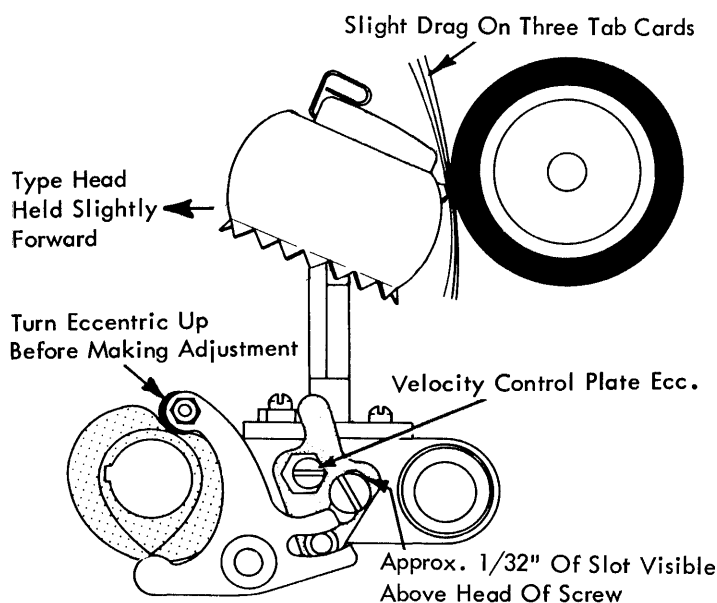

FIGURE 139. Velocity Control Plate Eccentric Adjustment
The eccentric shouldered nut (Fig. 139) on the velocity
- c. Hand cycle the machine using a zero rotate, zero tilt character until the print cam follower is on the high point of the cam. Do not hold the typehead toward the platen. With the mechanism in this position, adjust the velocity control plate eccentric until a slight drag is felt on three tab cards inserted between the typehead and the platen (Fig. 139). A heavy drag should be felt on four cards. No drag should be felt on two cards. You should not be able to insert five cards.